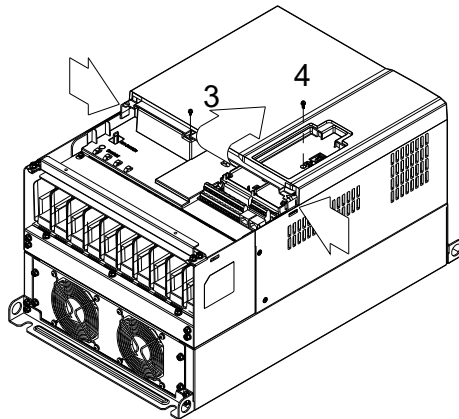

Figure 2
2. (Figure 2) Loosen screw 3 & 4; press the tab on the right and the left to remove the cover. Screw 3, 4 Torque: 6–8 kg-cm / (5.2–6.9 lb-in.) / (0.6–0.8 Nm)